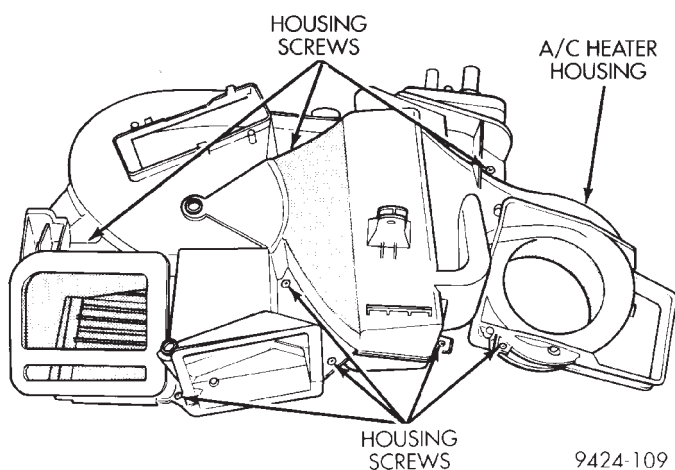

Fig. 88 Housing Screws
(9) Install evaporator into the lower housing.
(10) Install upper housing onto lower housing.
(11) Install screws to retain the upper housing to the lower housing (Fig. 88).